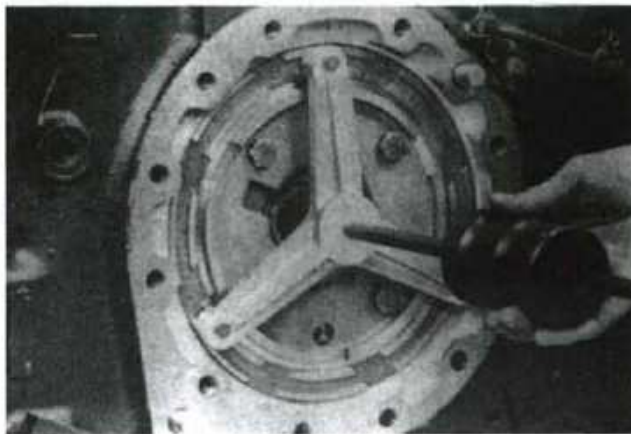
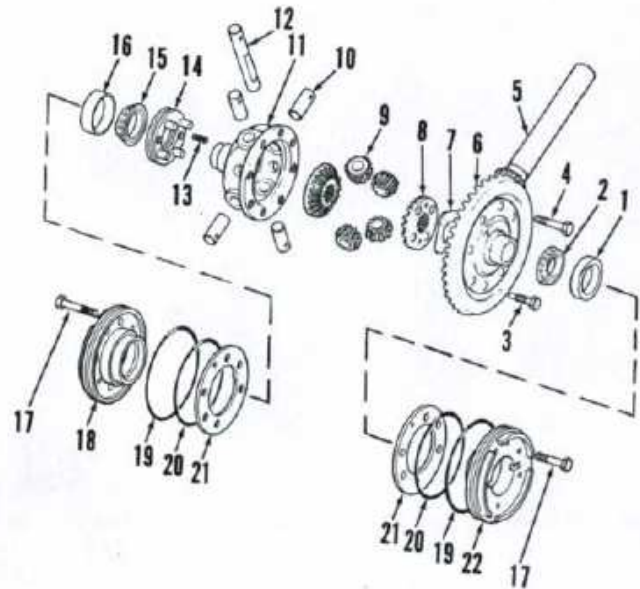
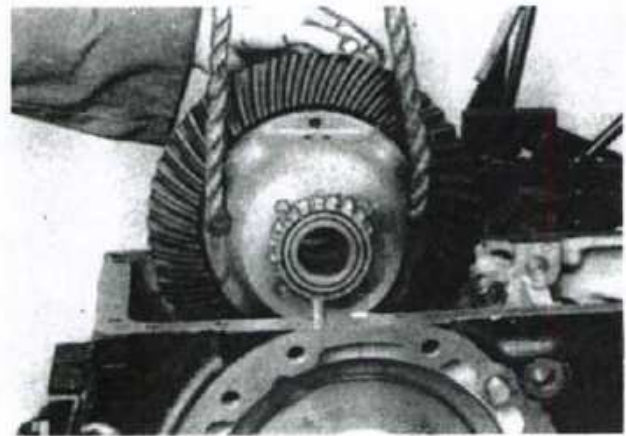
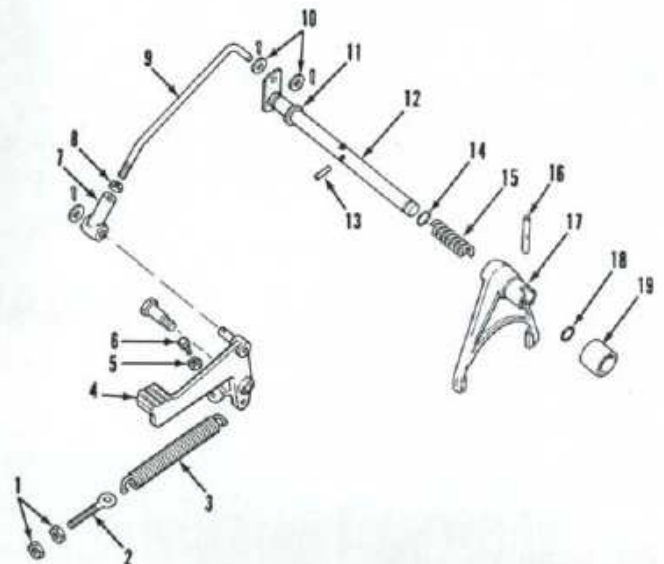

Fig. 131—Use special tool IH7847A and slide hammer to remove brake pistons.
Fig. 132—Exploded view of differential assembly.
Fig. 133—Use a rope sling and hoist to remove differential assembly.
Fig. 134—Exploded view of the differential lock.
The differential assembly for Models 385 and 485 has two pinions (9—Fig. 131) with a single cross shaft (12). Models 585, 685 and 885 have four pinions (9) and four stud shafts (10). The differential lock (14) is on the right side of all models.
drives as in paragraph 118. Disconnect and remove bevel pinion and ring gear lubrication tube. Disconnect and remove differential lock shaft and fork. On models so equipped, disconnect and remove heavy duty park brake cam pivot and brake band hanger support. On all models, remove inner brake ring from each side. Refer to Fig. 131 and using special tool IH 7847A and a slide hammer, pull out brake pistons. Install a rope through differential carrier for a sling and attach it to a hoist. Support differential with the hoist and unbolt and remove bearing housings (18 and 22—Fig. 132) and shims (21). Identify and keep shims with their relevant bearing housing. Remove differential and heavy duty park brake band, if so equipped. See Fig. 133. Slip off the brake band.
Remove bolts (3 and 4—Fig. 132) and separate bevel ring gear (6) from differential carrier (11). Remove thrust washer (7).
**NOTE:** The four dowel bolts (3) secure the four stub shafts (10). On Models 385 and 485, single cross shaft (12) and two pinions (9) are used.
Refer to Fig. 134 for an exploded view of differential lock linkage and to items (13 and 14—Fig. 132) for differential lock.
Overhaul of the differential lock is obvious after examination of the unit. To adjust the linkage, refer to Fig. 134 and disconnect link (9). Rotate shaft and lever (12) forward until fork (17) is fully bottomed on actuating pin (16). At this time differential lock should be fully engaged. Rotate lever and shaft (12) rearward until differential lock is fully disengaged. With pedal up, adjust length of adjusting link (9) until link will align with hole in lever. Reconnect link and actuate pedal to see that differential lock will engage and disengage properly. Adjust nuts (1), if necessary, to make sure spring (3) fully raises pedal to disengaged position. Overall length of adjusted spring (3) should be approximately 9 inches (229 mm).